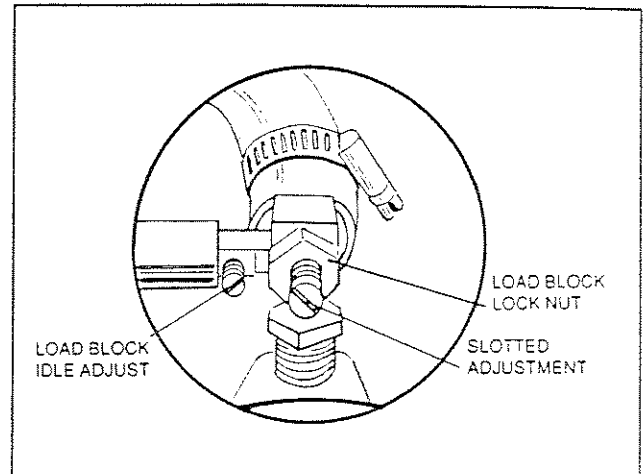

Figure 4. Load Block Adjustments
6. Complete initial adjustment of the load block as follows (Figure 4):